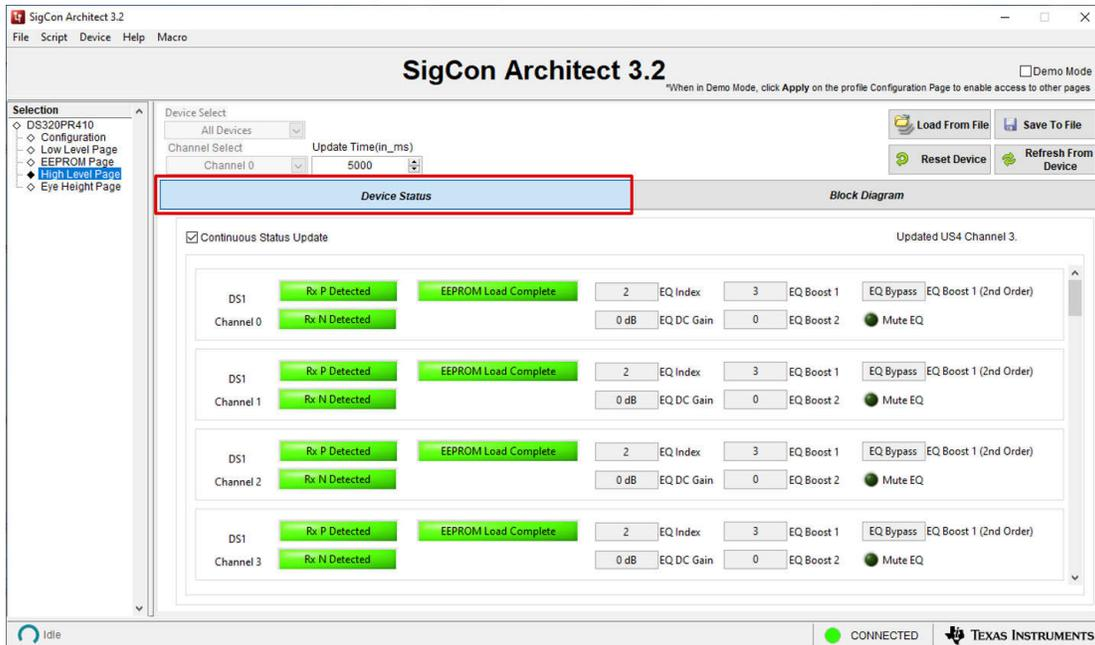

Figure 5-1. High Level Page: Device Status Tab
1. After clicking on the *High Level Page* tab on the left side of the GUI, the *Device Status* tab is shown, such as in Figure 5-1. Each channel status is updated sequentially, showing each connected device's channel RX Detect and EEPROM Bank Load status, along with the channel's current EQ settings. The RX Detect status bar appears green if proper receiver impedance detection is found and red if proper receiver impedance detection is not found. EEPROM Load status bars appear green if the device's register bank has properly loaded EEPROM data and red if EEPROM data has failed to load. Note that the EEPROM Load status always indicates a failed (red) load status when the device is operating in SMBus/I²C secondary mode (MODE = L2). The current EQ settings are shown to the right of each channel's status indicators.